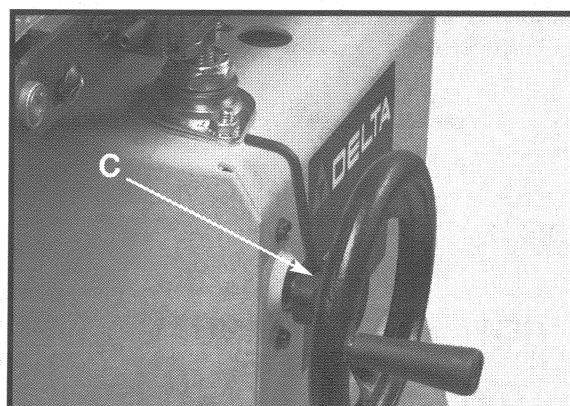

Fig. 4
2. Fasten the handwheel to the shaft by tightening the set screw (C) Fig. 4. Make sure set screw contacts the drilled recess in the shaft and not the O.D. of the shaft.